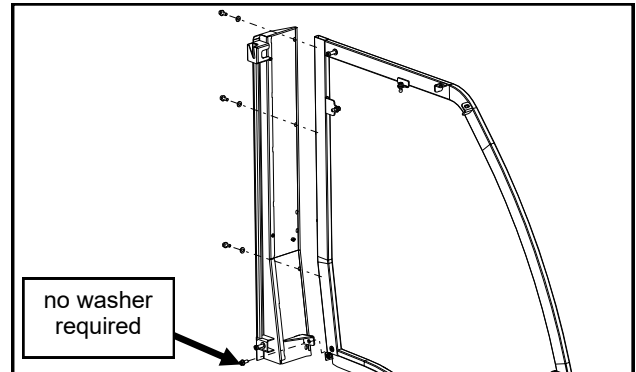

Fig. 6.1 (rear leg to side frame - left)
**6.1** Using hardware listed below, bolt the left rear leg to the left side frame and then right rear leg to the right side frame. See fig. 6.1.